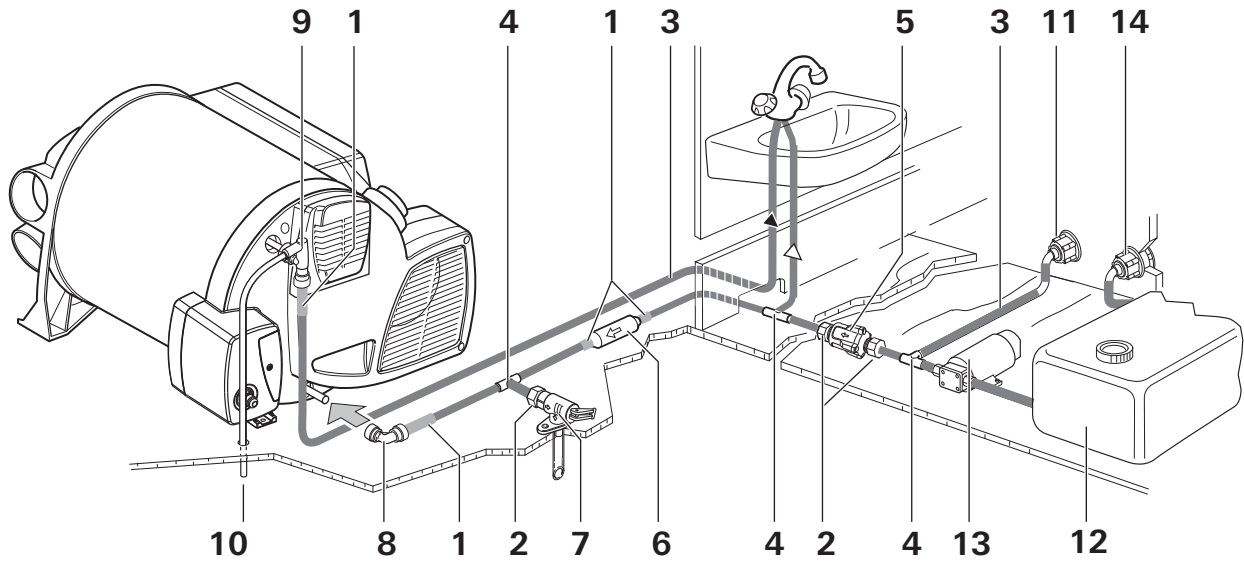
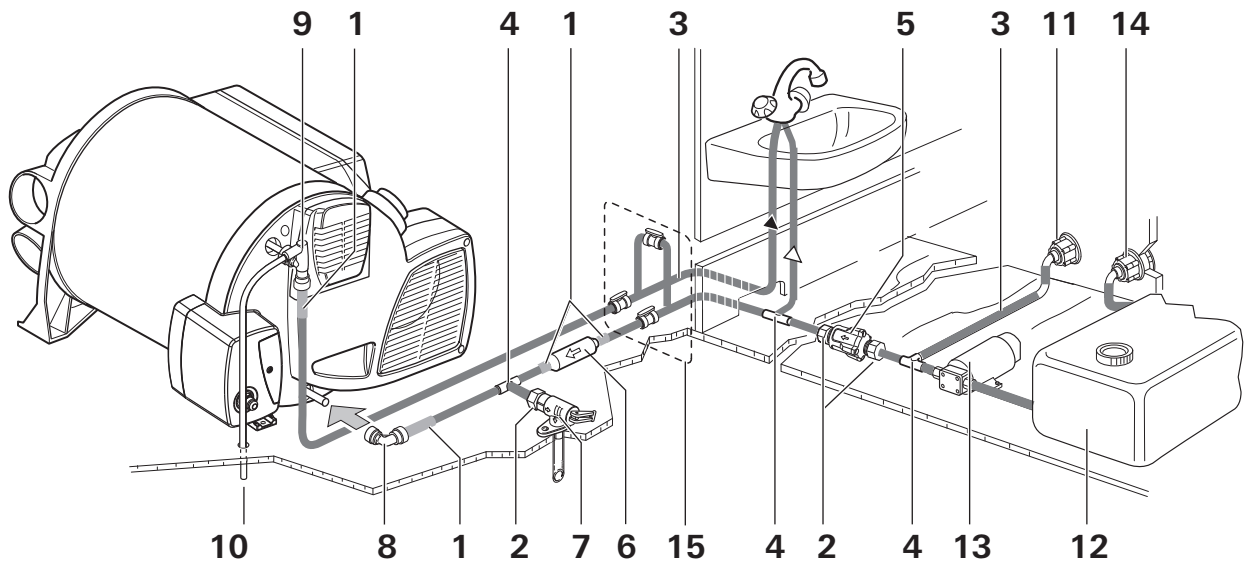

Fig. 26
Fig. 27 Illustration for installation with a bypass kit for winterizing
- If a submersible pump is used, you must install a non-return valve (Fig. 26 – 6) between the pump and the first branch.
- If you use pressure pumps that exhibit considerable switching hysteresis, hot water can flow back via the cold water faucet. You must install a non-return valve (Fig. 26 – 6) between the outlet to the cold water faucet and the pressure relief/drain valve to prevent backflow. Install the water lines so as to ensure that all connected components function as intended. More specifically, water lines must be as short, kink-free, and unstressed as possible.
- The Truma water pressure regulator (Fig. 26 – 5 and Fig. 27 – 5) will ensure that the Combi water container will not be filled with a pressure exceeding 30 psi (2 bar).
- The water pressure regulator must be installed between the pressure relief/drain valve and the city water connection or water pump (Fig. 26 – 5).